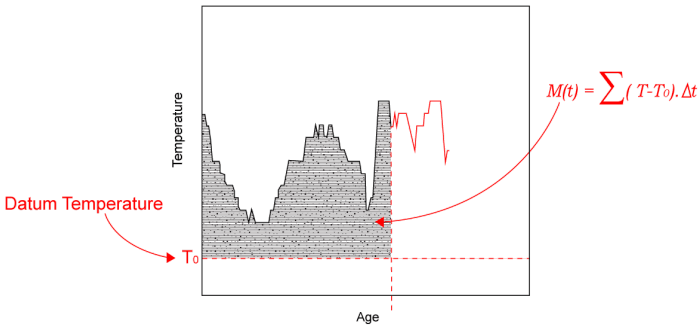

Figure 4-1: Temperature Time Factor Method
This approach takes into consideration that the maturity value is linearly dependent on temperature and can simply be represented by the area below the temperature curve, as graphically shown in Figure 4-1. In this approach, the area under the temperature curve is taken as the difference between the average recorded temperature and the datum temperature (T). The datum temperature is defined as the temperature at which the hydration of the cement stops, in other words, the temperature at which concrete stops developing strength. The Nurse-Saul equation is mathematically represented as follow: